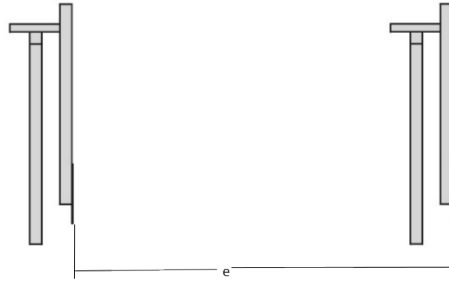

Figure 10.3: Programming - Long Travel
**Programming the Saw - Long Travel Details** Figure 10.3 is a simplistic diagram to show the relative dimensions that comprise the long travel axis travel limits. The left hand side is representing the Home position of the Long Travel Axis, and the right hand shows the saw with it's Long Travel Axis in the forward limit position. The Long Travel Axis moves from the Home Position to towards the Forward Position during automatic block cutting in order to eliminate any potential backlash in the rack and pinion drive of the axis, which could introduce inaccuracies in position and or it's repeatable capabilities. The dimension  $e$  is the maximum forward travel in inches, for the Long Travel Axis. The Long Travel Axis, is commanded to move to the *First Cut* location of each block that is programmed by the Operator. The *Automatic Program* begins by loading the *First Cut* location for the (current) block, and instructing the Long Travel Axis to move to that location (which may be 0 for the first block). Once the first cut is completed, the *Automatic Program* will check to see if there are any slabs to cut for the currently loaded block. If there is one or more slabs (size) of one or more quantity, then the Automatic Program will add the *Slab Size* (Chapter 8, Block Program) plus the *Blade Kerf* (Chapter 7, Saw Parameters) to the *current Long Travel* position, and load the new position into the *Long Travel Axis* index command position and trigger the index move. If there are more than one of this size of slab, the quantity counter is reduced by one at this time. If there is no other slab quantity of this slab, then once the cut has completed the Automatic Program checks for more slabs for this block,